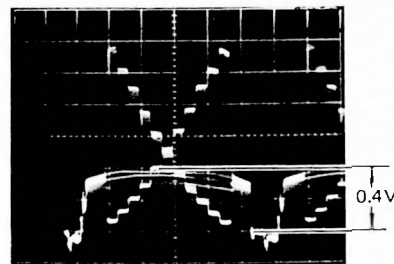

Fig. 4-4-23
- Adjust AIC SET VR224 so that the voltage between the OB level and the fourth step (one step below the crossing step) of the gray scale waveform is about 0.4V. (Fig. 4-4-23)